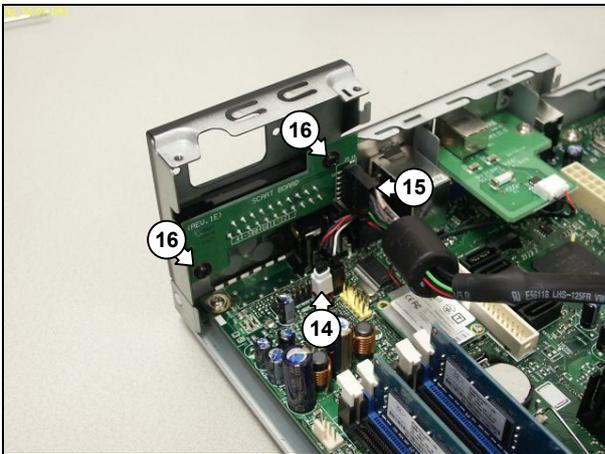

Figure 12.15-7
2. Disconnect the ADD2 SCART cable (14) from the motherboard. See Figure 12.15-7.
3. Disconnect the ADD2 SCART cable (15) from the SCART daughterboard. See Figure 12.15-7.
4. Remove the 2 mounting screws (16) from the SCART daughterboard. See Figure 12.15-7.